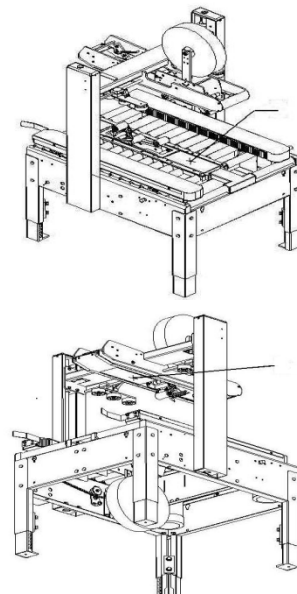

Figure 4
*The optional carton size of 2 inches high by 8 inches wide is achieved by the offset design of the Tape Heads. Remove the gap filler plates to process these low cartons. (Refer to Figure 4)